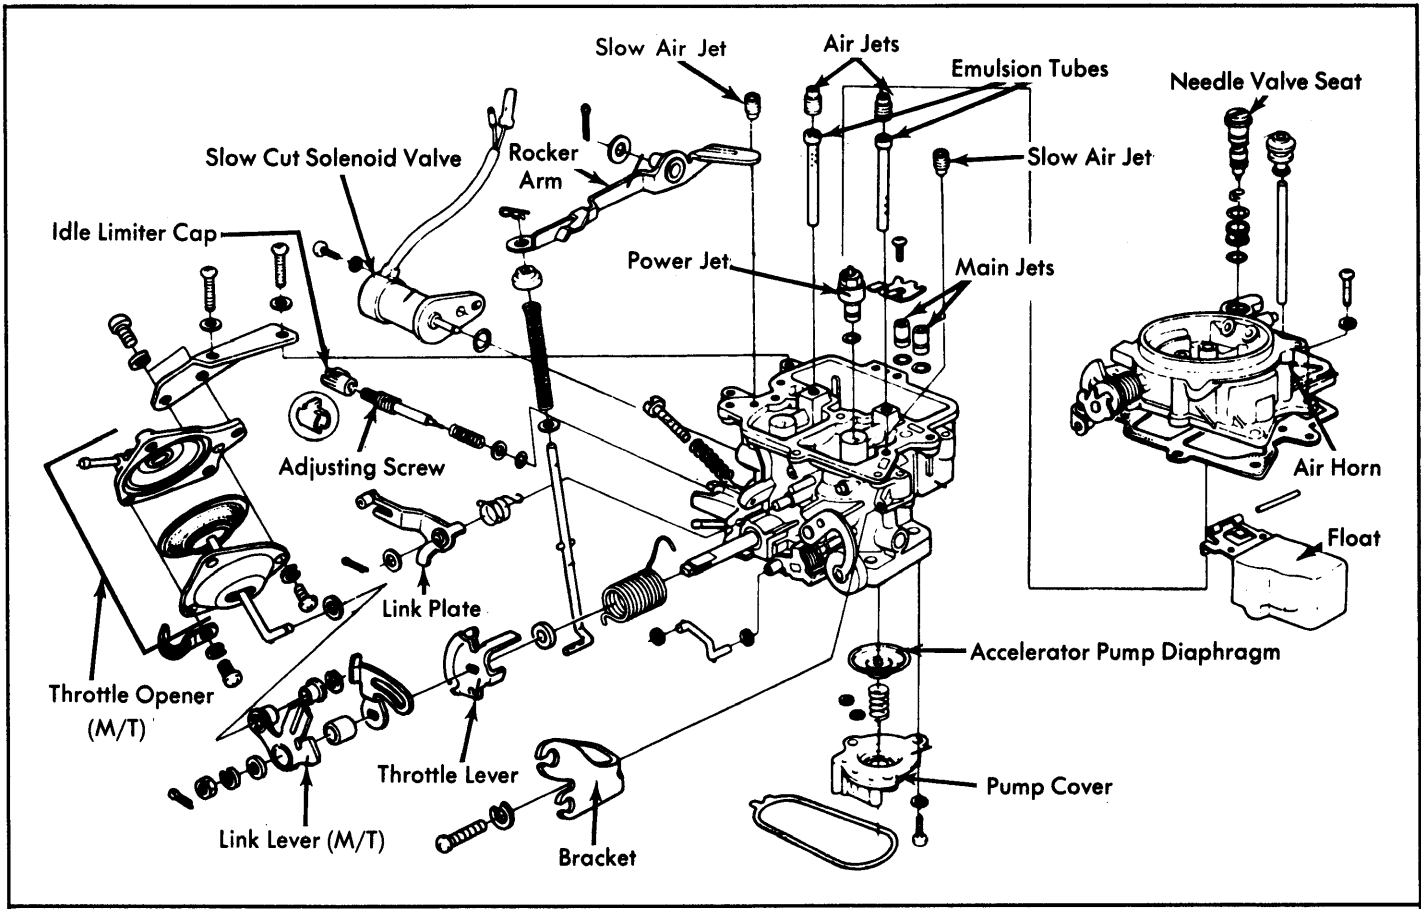

Fig. 8: Exploded View of Keihin 2-Barrel Carburetor
4) Remove screw and bracket assembly. Remove fast idle ring. Remove throttle cable bracket, throttle lever and spring. DO NOT disassemble auxiliary and throttle valves. If necessary, disassemble accelerator pump and throttle opener. See Fig. 8.